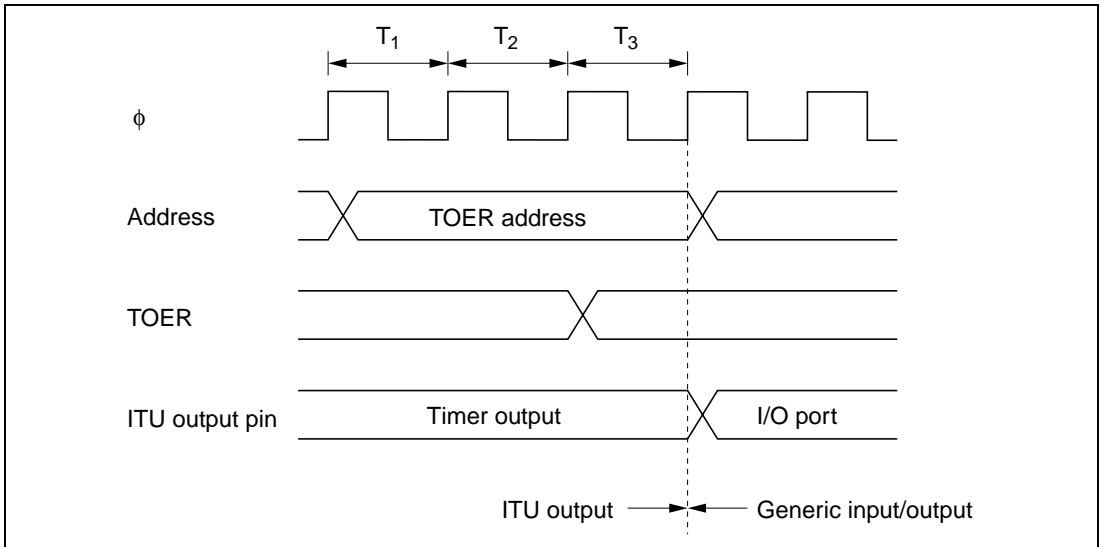

Figure 8.54 Timing of Disabling of ITU Output by Writing to TOER (Example)
In this example an ITU output is disabled by clearing a master enable bit to 0 in TOER. An arbitrary value can be output by appropriate settings of the data register (DR) and data direction register (DDR) of the corresponding input/output port. Figure 8.54 illustrates the timing of the enabling and disabling of ITU output by TOER.